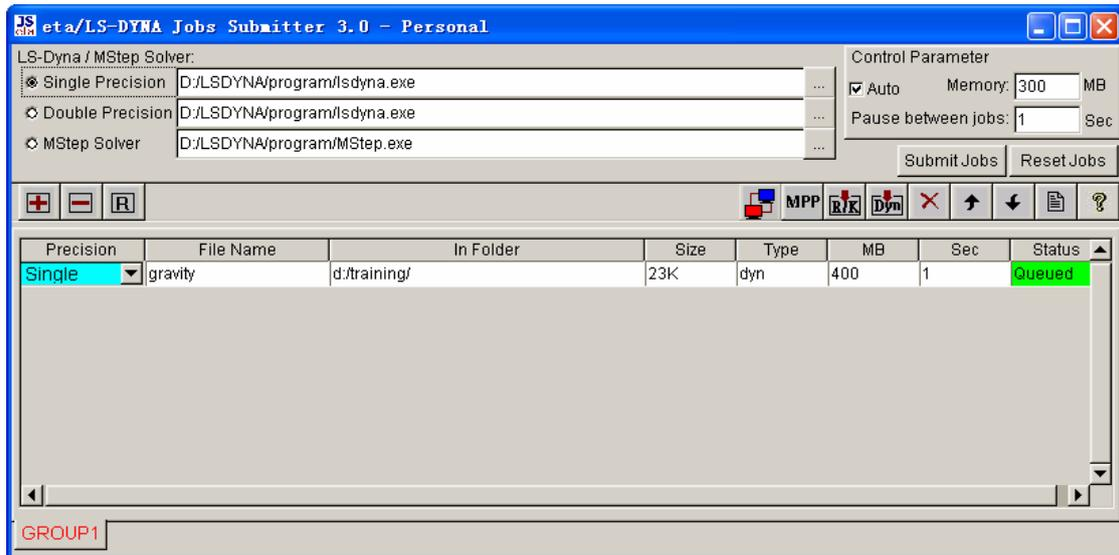
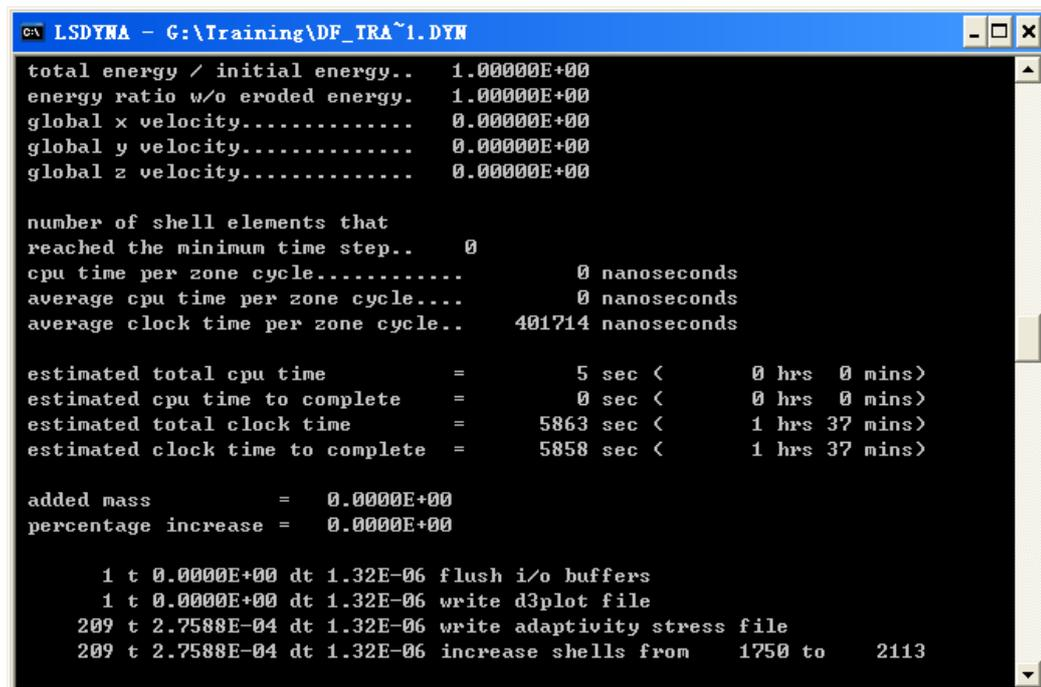

Figure 4.27 Submit job interface
Figure 4.28 LS-DYNA solver window
Submitter interface illustrated in Figure 4.27.
5. Click **Submit Jobs** button, as shown in Figure 4.27 to activate the LS-DYNA solver for running the stamping simulation. The LS-DYNA window illustrated in Figure 4.28 is displayed and the simulation is in progress.